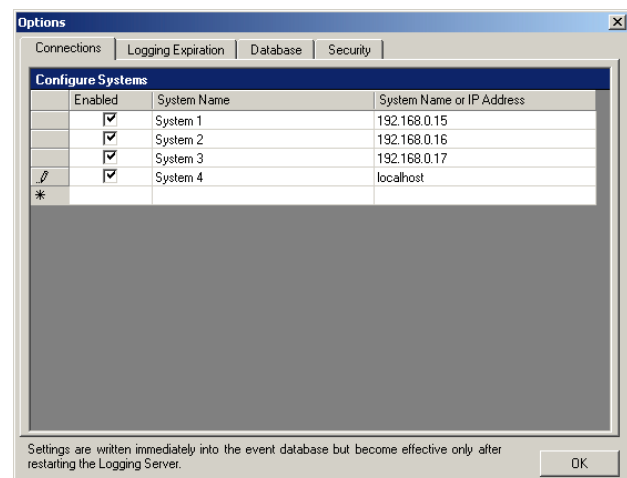

figure 49.7: Add a system (2)
- 2 Click the *System Name* field and enter the name of the system to which the *Logging Server* must connect. The name may consist of up to 16 characters. For example, *System 4* (see figure 49.7).